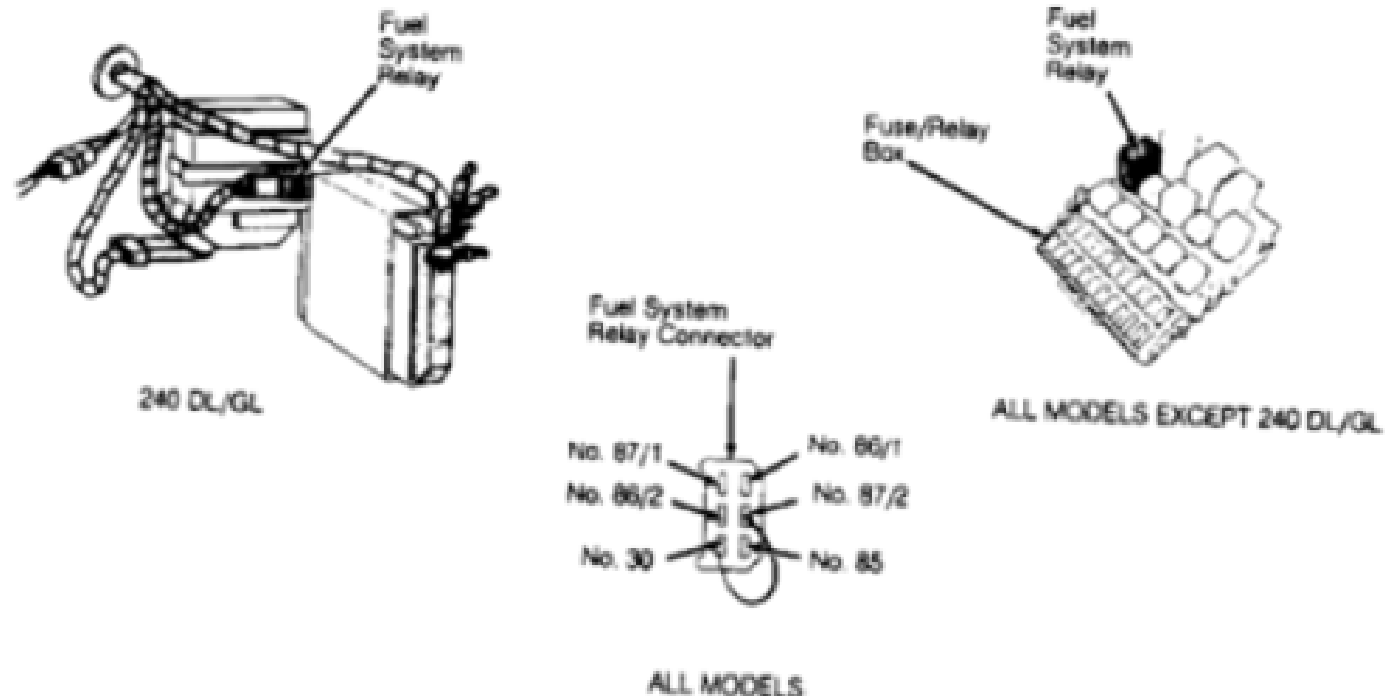

Fig. 3: Fuel System Relay Locations & Terminal Identification
- 2) On 240 DL/GL, remove panel under right side of instrument panel. Disconnect fuel system relay connector. See Fig. 3.
- 3) On all models except 240 DL/GL, remove fuel system relay. Fuel system relay is located in fuse/relay box. See Fig. 3.